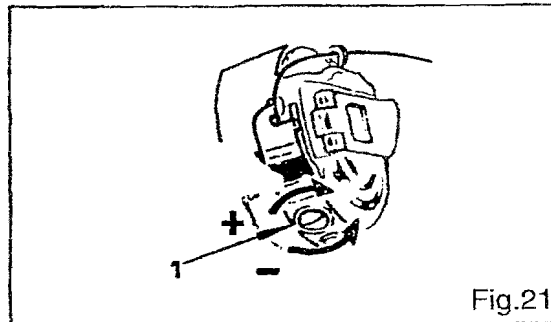

Fig.21.
17. ADJUST BOBBIN THREAD TENSION (Fig.21)
Regulate bobbin thread tension regulating screw 1. Fig.21.